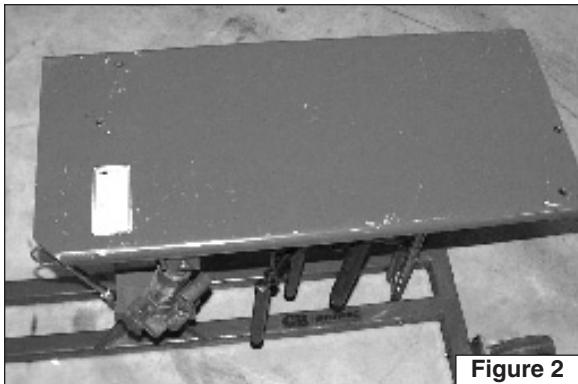

Figure 2
2. Position table top in horizontal position as shown in Fig. 2.